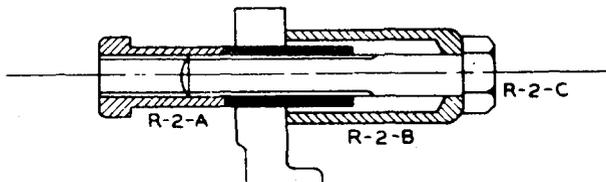

Fig. 29
(7) Tell-Tale Shaft Bearing: Remove the tell-tale shaft bearing by means of the bearing removal tool shown in Fig. 29. The three parts of this tool are marked R-2-A, R-2-B and R-2-C. Assemble them in the bearing as shown so that when nut R-2-A is tightened the bearing will be pushed into the recess of R-2-B.